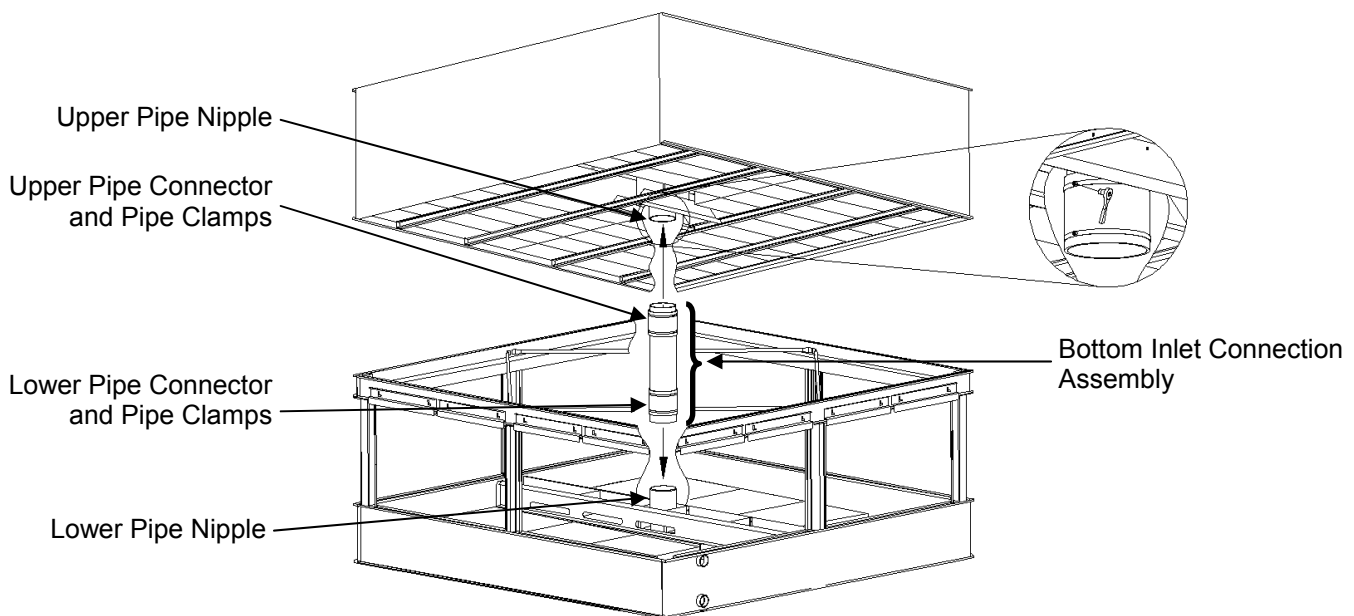

Figure 24 - Bottom Inlet Pipe Spool Installation
Assembly Instructions (Refer to Figure 24.)
3. Position the bottom inlet connection assembly over the lower pipe nipple on the basin section. (see Figure 24.)